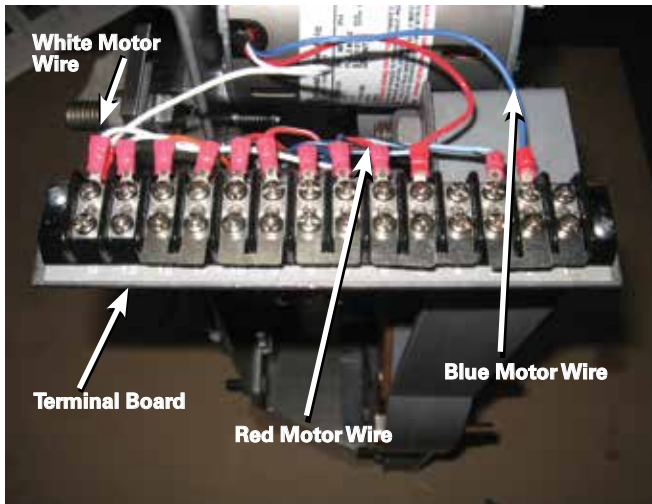

Figure 107. Disconnection of wires.
4. Use a Phillips screwdriver to disconnect the white motor wire located on terminal "G"; the red motor wire located on terminal #5 and the blue motor wire located on terminal #2. Refer to Figure 107.